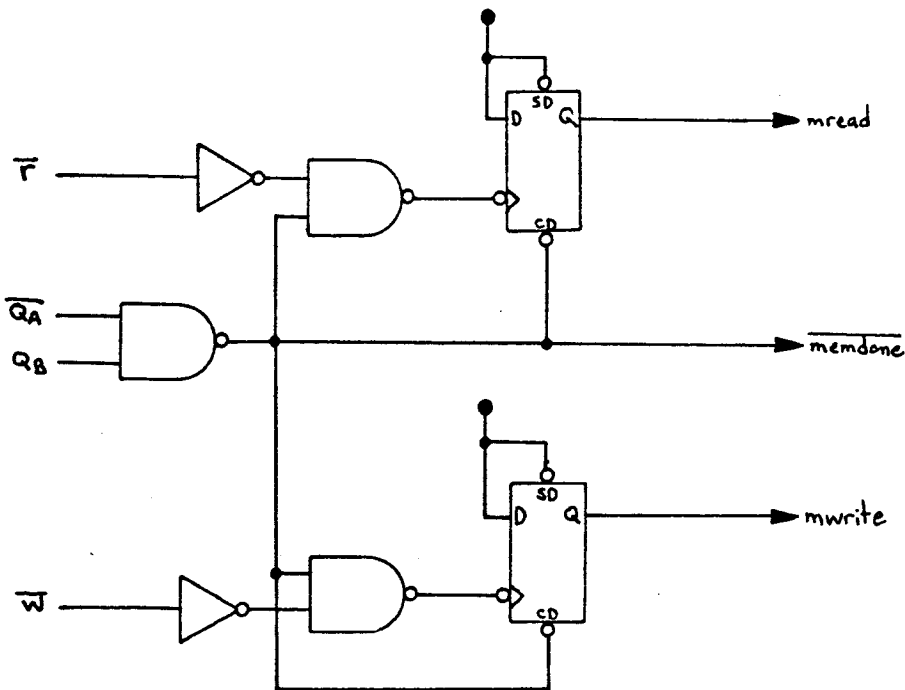
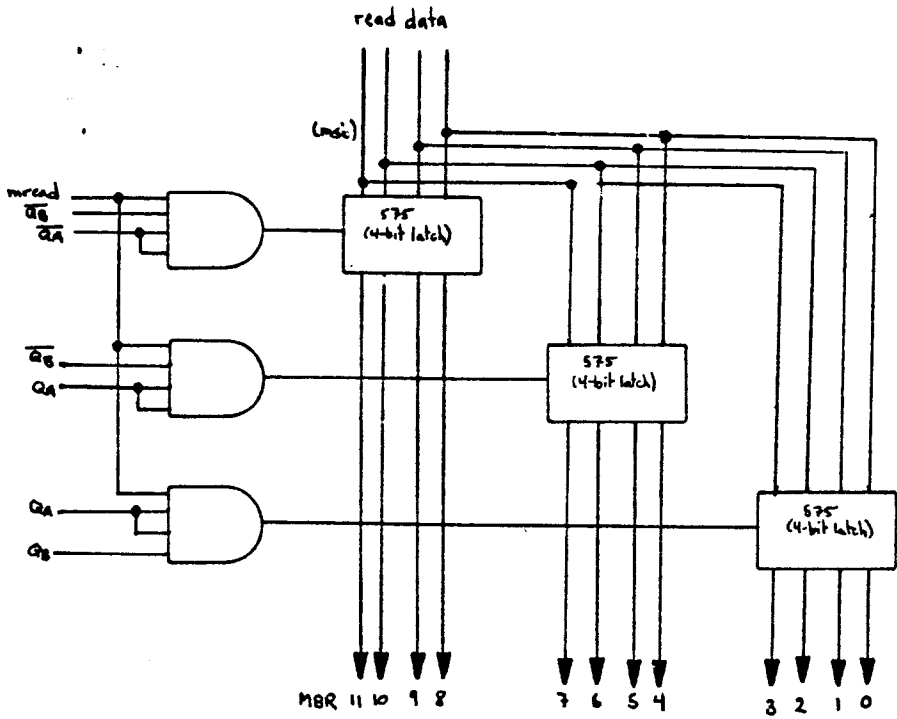

Figure 6
Figure 7
OPs are decoded by detecting BIT0=0, BIT1=1 (actually BIT0=0 and not BR). This signal is ANDed with the appropriate bit to decode the instructions. This causes a timing problem on a WRITE (you should now be looking at figure 6). Since OP must go through 2 NOR gates, it is delayed from the write signal, which comes directly from BIT15. Thus, if a READ is followed by an instruction which happens to have BIT15 set, BIT15 comes on, OP
is delayed by a couple of gate delays and w goes low, which makes the memory think it supposed to do a write. To fix this problem, gate delays are put on BIT15 (the *'d guys in figure 6) so that it cannot change until after OP has changed. Crude but effective.
STUPID words are 12 bits long, which means that we must read or write 3 4-bit words for each STUPID word (this is necessary because of the restriction of 1 LSI 2102 per person). The memory controller shown in figure 6 accomplishes this monumental task. When a read instruction is executed, \bar{r} goes low. This clears the A and B flip flops and sets the mread FF. The r signal is NANDed with $\overline{\text{memdone}}$ to assure that the clock signal changes after $\overline{\text{memdone}}$ goes high - otherwise the clock transition would be lost. Setting mread causes the memory to read a single 4-bit word as described above. resetr/w is used to clock the A and B flip flops, which count in the sequence 00, 10, 11, 01 (AB). On the 00->10, 10->11 and 11->01 transitions, the read data is latched into the MBR (see figure 7). This means that the read data must stay valid until it can be latched. The LSI 1702 data is valid